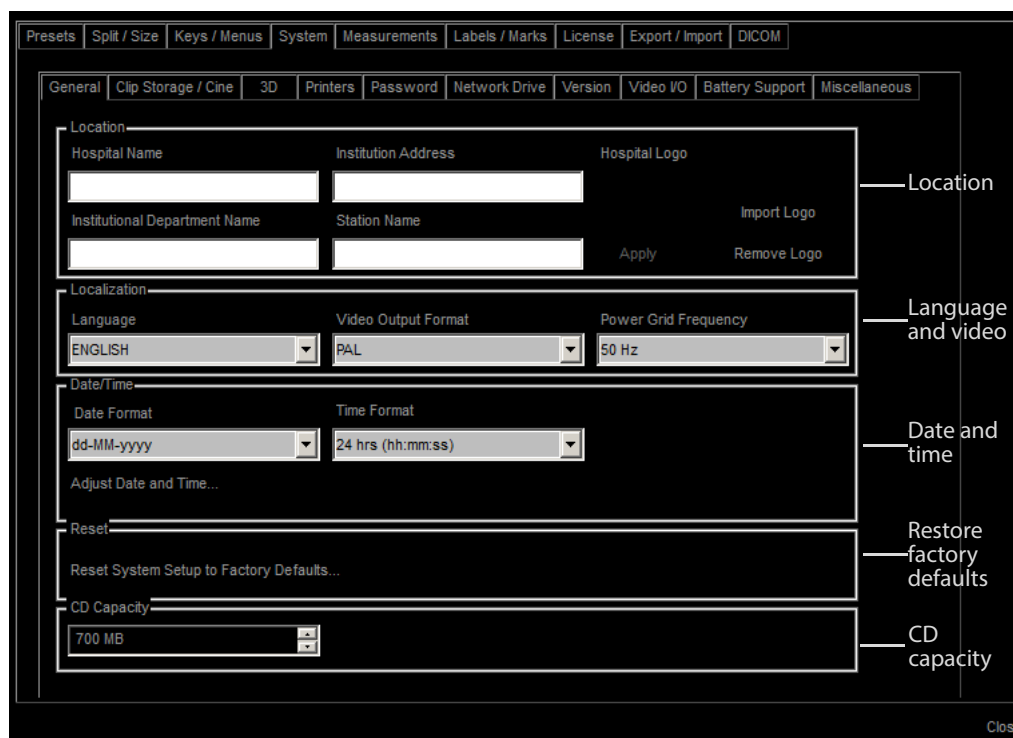

Figure C-4. The General Setup window.
Warnings on the monitor can be displayed in different languages. Set the preferred language in the **General Setup** window (see Fig C-4).
- Click **Date/Time** in the **General Setup** window (Fig C-4).
To restore all factory default settings on the system, click **Reset System Setup to Factory Defaults...** See Fig C-4.